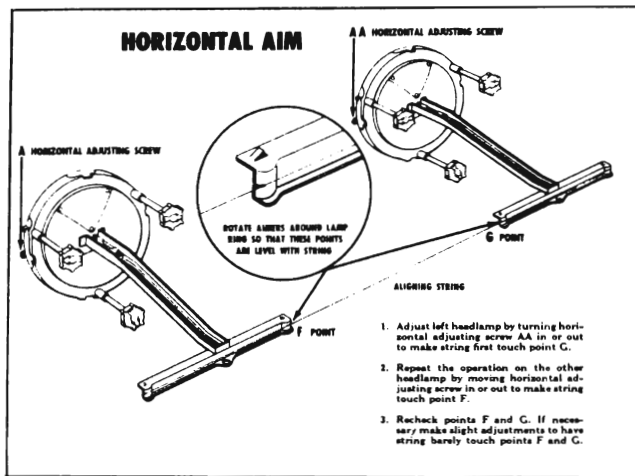

Figure 10-67—Horizontal Aim
1. Adjust left headlamp by turning horizontal adjusting screw AA in or out to make string first touch point G. See Figure 10-67.
2. Repeat operation on the other headlamp by moving horizontal adjusting screw in or out to make string touch point F. See Figure 10-67.